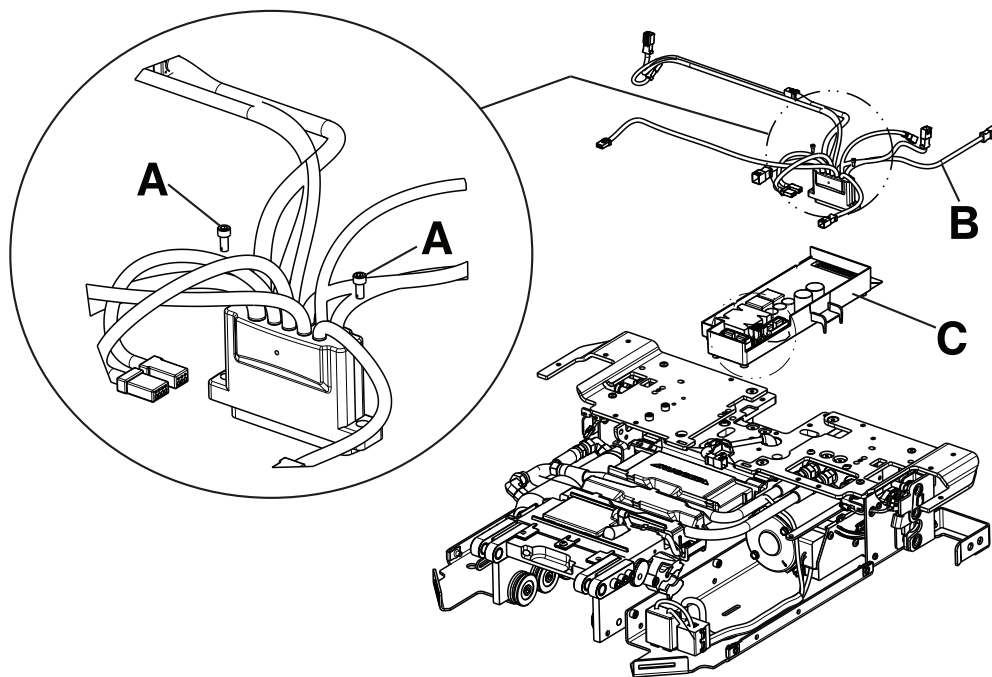

Figure 10 – Control board assembly
2. Using a 3/32" hex wrench, loosen (do not remove) the two screws (A) that secure the main cable assembly (B) to the control board assembly (Figure 10).
3. Unplug all of the other cables from the control board assembly (C) and then remove the control board assembly (Figure 10). Discard the control board assembly.